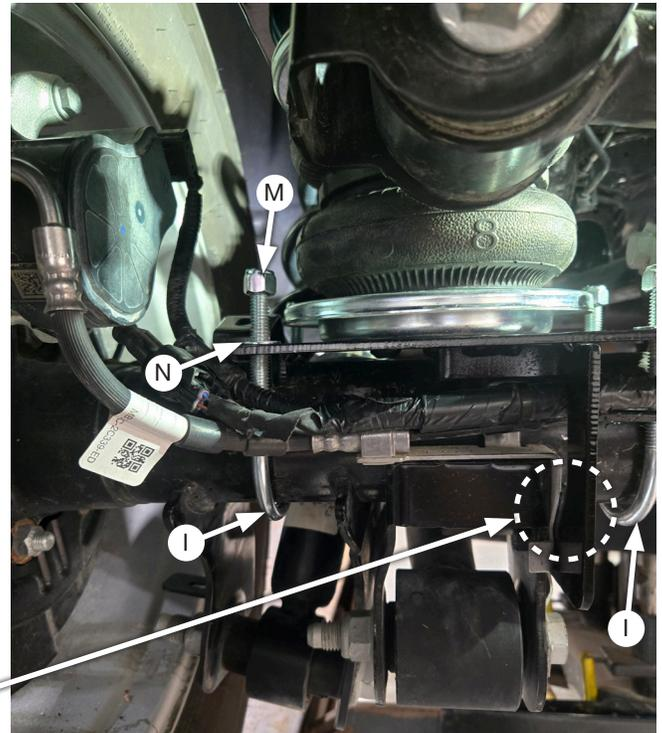

Fig. 14
1. Align the slot in the bracket with the boss on the axle where the wiring harness is used to clip in (circled). Once the boss and slot have been aligned, reinsert the brake hose bolt to secure the bracket and leave it loose for now. Insert the two 3/8-16 X 5" U-bolts (I) through the lower bracket and place a single 3/8" flat washer (N) over each side of the U-bolts. Screw a single 3/8-16 nylon lock nut (M) onto each side of the U-bolts and leave loose for now (Fig. 14).